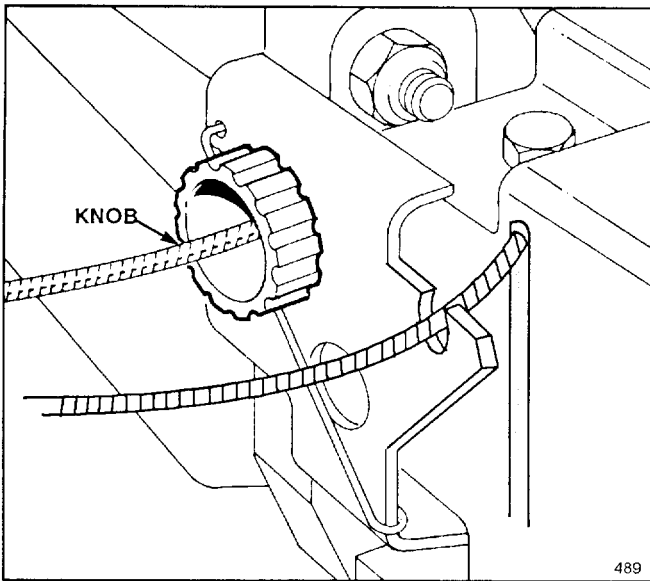

Figure 16
If mower does not self-propel or has a tendency to creep forward when drive is not engaged, adjust wheel drive control knob on rear of gear box (Fig. 16).
3. To adjust wheel drive cable, rotate knob clockwise to increase distance between control bar and handle. Turn knob counterclockwise to decrease distance between control bar and handle (Fig. 16).